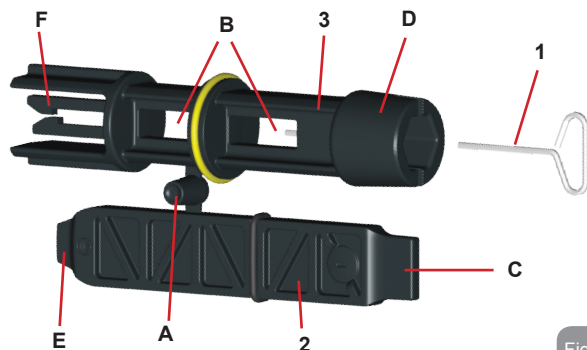

Figure 24
- 1 - metal key with a hexagonal section (Fig.24 – 1);
- 2 - flat plastic key (Fig.24 – 2);
Key “1” is in turn inserted in the end “D” of key “3”. At the first use you must separate the 2 plastic keys “2” and “3”, which are supplied joined by a bridge (Fig.24 – A):